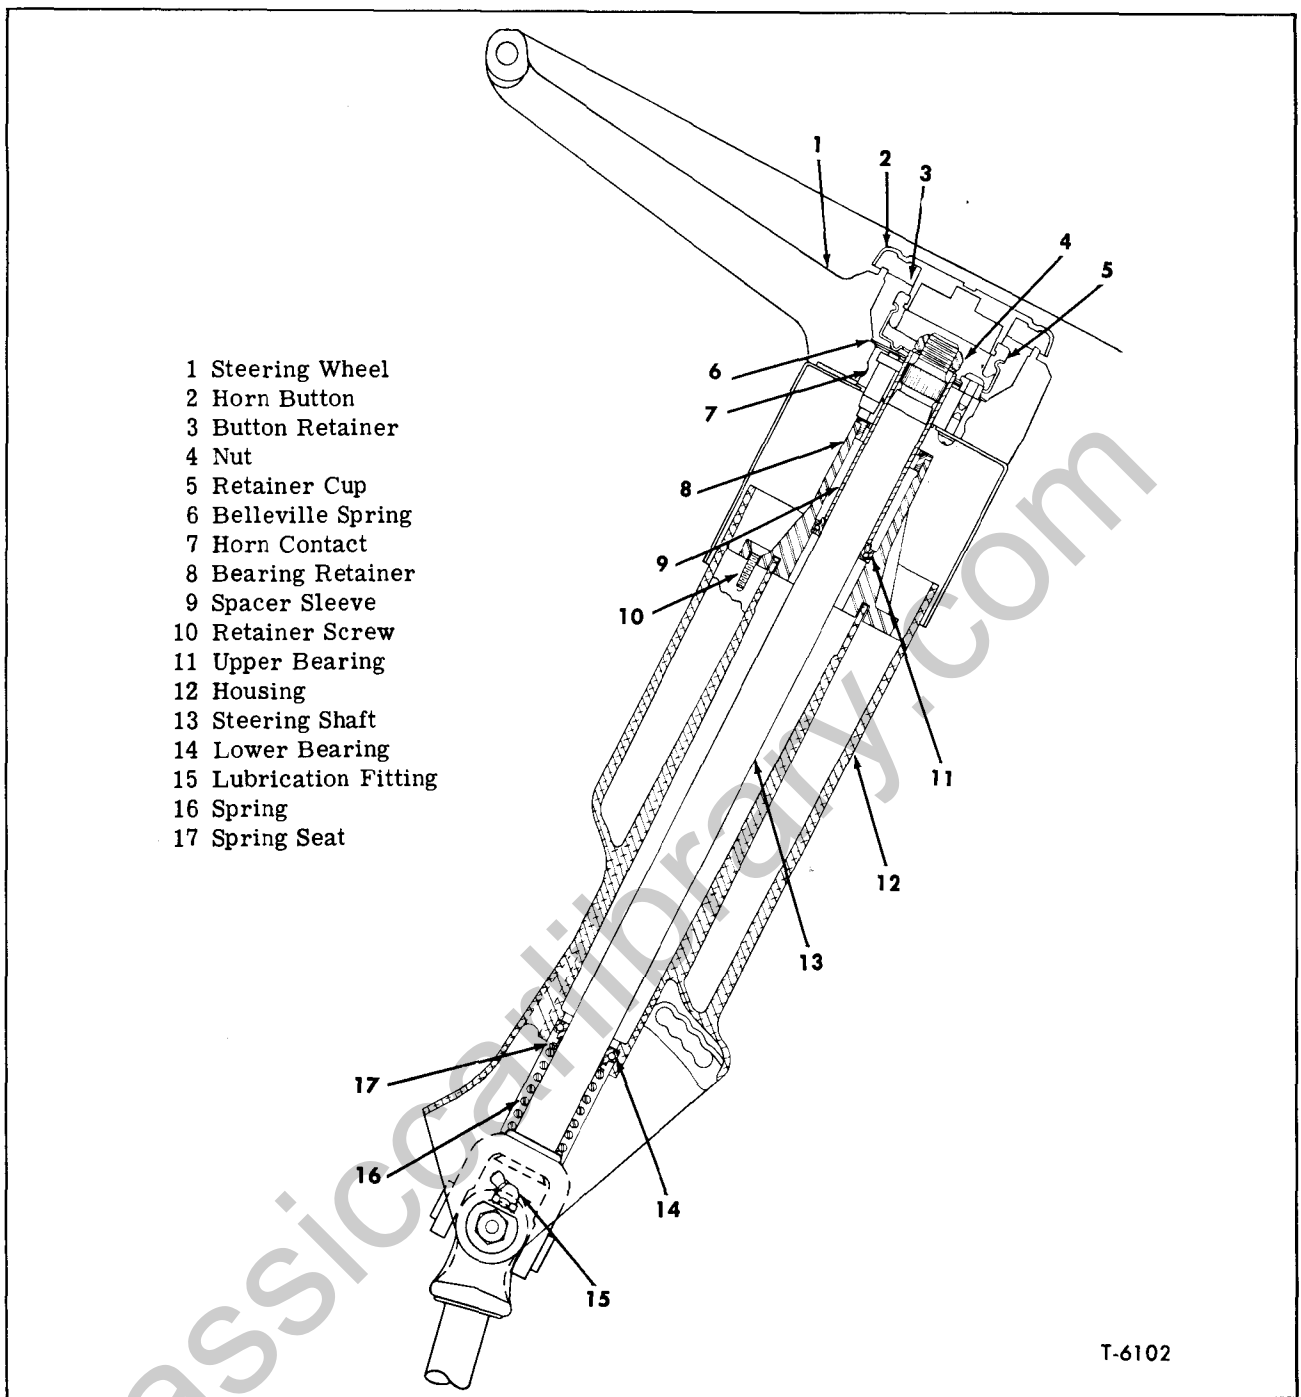

Figure 25—Upper Steering Column and Shaft (Alum. Tilt)
5. Lift column housing from steering shaft. If desired, lower bearing seat and spring (fig. 25) can be removed from shaft.